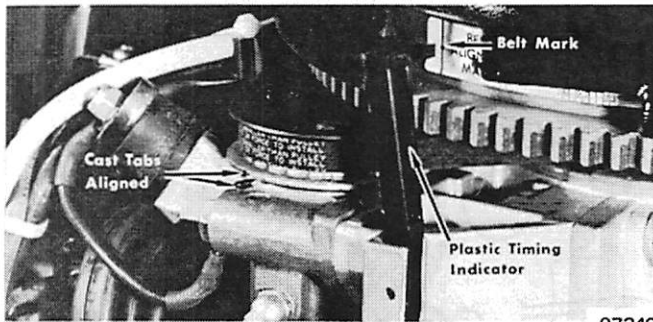

Figure 1. Primary Timing Marks
1. Align belt mark on flywheel perimeter with plastic timing indicator on crankcase. (Figure 1)
2. Align cast tab on driven pulley with cast mark on distributor adaptor (Figure 1) and install timing belt, plate, washer and screw.